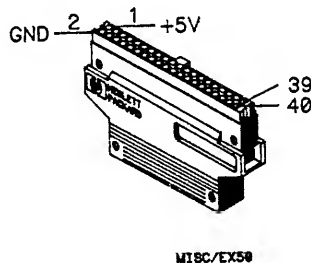

Figure 3. Pinout for the Logic Analyzer Cable
1. Disconnect one of the logic analyzer cables from the HP 10269C and measure across pins 1 and 2 (see figure 3).